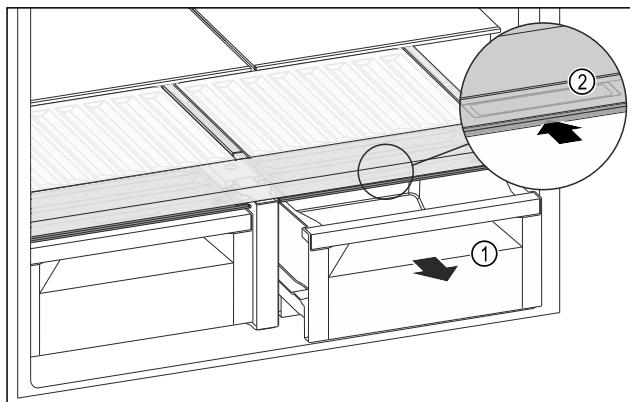

Fig. 143
- ▶ Pull out the drawer *Fig. 143 (1)*.
- ▶ Grasp the recessed grip *Fig. 143 (2)* on the compartment lid and push the compartment lid backwards at the same time.